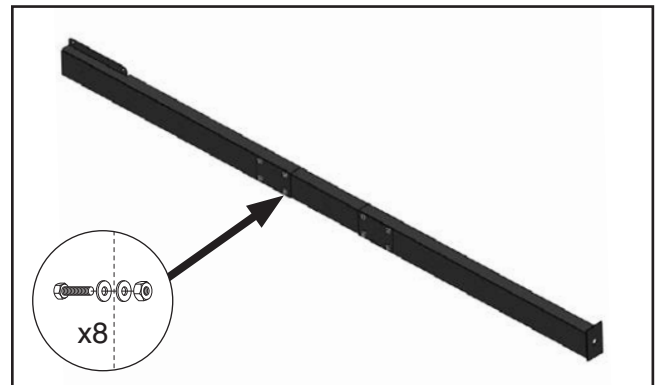

Figure 6. Assembled HEPA support leg (comprised of three parts).
4. Assemble all three HEPA support leg components (see **Figure 6**) using (8) $\frac{3}{8}$ " x 1" hex bolts, (16) $\frac{3}{8}$ " flat washers, and (8) $\frac{3}{8}$ " nuts.